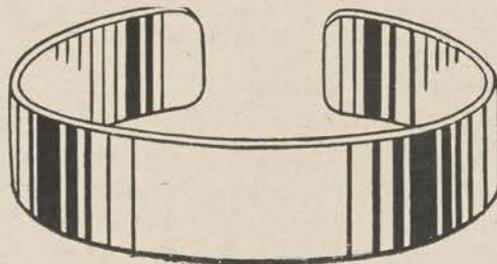

Figure 95.
(5) If the ends are still too far apart they may be pressed together with the hands, or the side of the bracelet may be hammered lightly to close them. Finally, it should be replaced on the mandrel and all irregularities removed by hammering it again with straight, vertical strokes. This will also harden the metal and make it springier. The bracelet is now completed unless you wish to add a design or monogram (see end of chapter) (fig. 95).